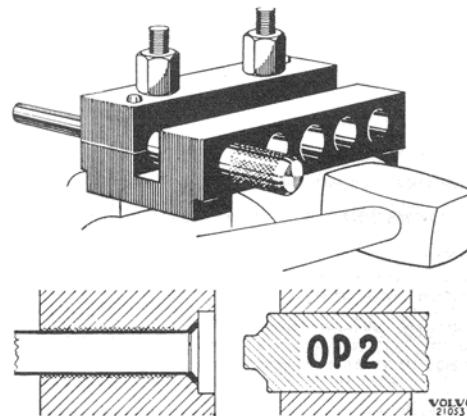

Fig. 28. Flanging the brake pipeline
4. Replace the drift with OP 2 (Fig. 28) and drive this in until it bottoms.